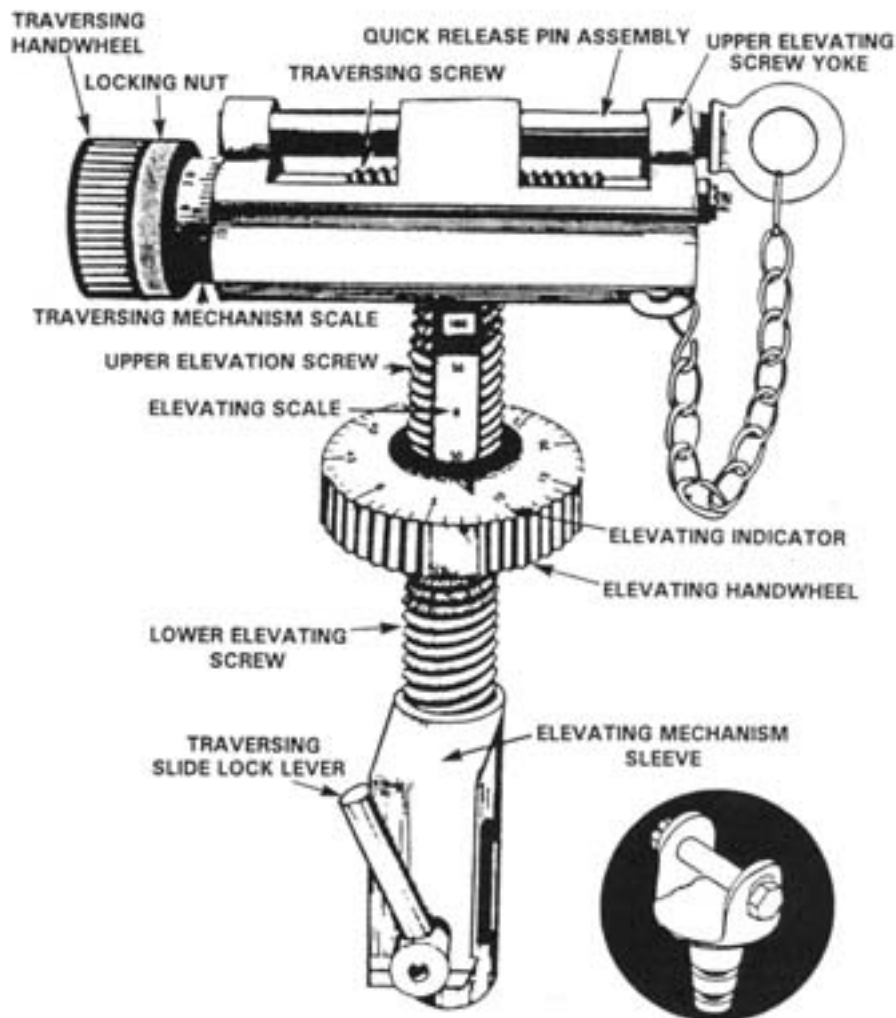

Figure 4-70. T&E Mechanism and Pintle.
a. Traversing and Elevating Mechanism. See figure 4-70.
(1) Traversing mechanism. The traversing mechanism consists of a traversing bar, slide, and screw assembly. The traversing bar, graduated in 5-mil increments and fits between the trail legs of the tripod. The traversing slide and screw assembly are clamped in place on the traversing bar by the traversing slide lock lever. When the traversing slide is locked to the traversing bar, the traversing hand wheel should be centered. The traversing slide is properly mounted when the lock lever is to the rear and the traversing hand wheel is positioned to the left.
b. Pintle. The gun is connected to the tripod mount, M3 by a pintle (see figure 4-70). This pintle is attached to the machine gun by a pintle bolt through the front mounting hole in the receiver. The tapered stem of the pintle seats in the tripod head and is held secure by a pintle lock and spring. To release the pintle, raise the pintle lock, releasing the cam.